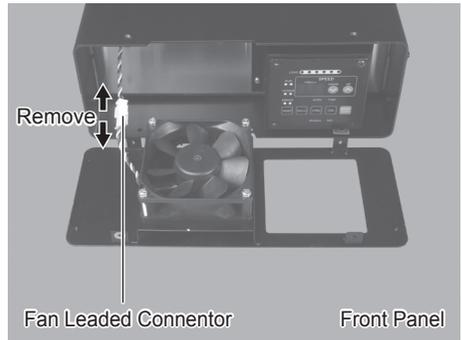

Fig. 43
- (5) Remove the FAN Cord (Fig. 43).